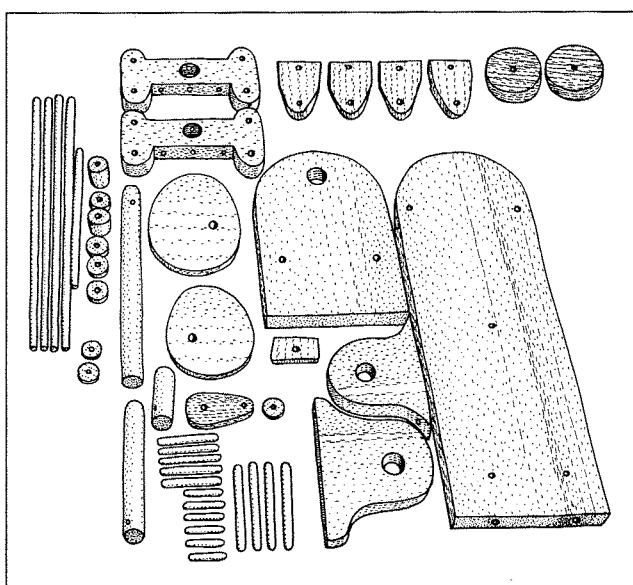

FIGURE 15-11
- 1** The best procedure is to first dry build with the tight-push pegs, pencil label the whole works with registration marks, and then, when you are sure all is correct, begin gluing and pegging it together (Fig 15-11).